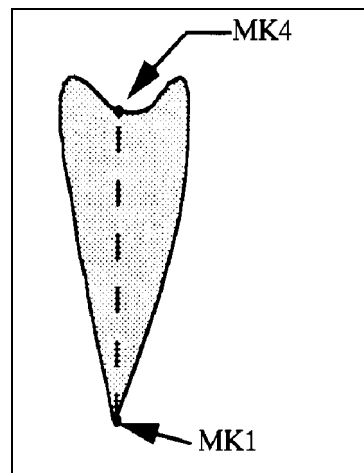

Figure 5-24
3. Enter a Mk1 at the base (the point) of the petal. Refer to the illustration of the single petal in Figure 5-24. This Mk1 is the starting point for the digitizing and sets the first point of reference for the digitized size and orientation for the stored symbol.